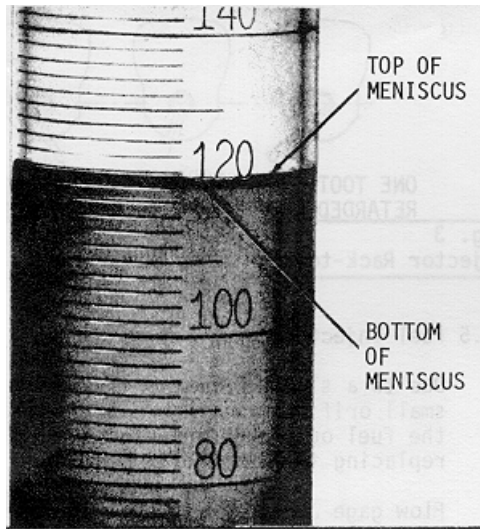

Fig. 1
- (1) Operator Errors: If the column of liquid in the vial is read at the top of the meniscus instead of at the bottom, a variation of 1 or 2 points will result. Refer to Fig. 1.
- (2) Air In Lines: This can be caused by starting a test before the air is purged from the injector and lines, or from an air leak on the vacuum side of the pump.
- (3) Counter Improperly Set: The counter should be set to divert the injector output at 1,000 strokes. This should not be confused with counter overrun that will vary from 2 to 6 digits, depending upon internal friction. The fuel diversion is accomplished electrically and will occur at 1,000 strokes (if properly set) although the counter may overrun several digits.
- (4) Test Oil: A special test oil is supplied with the calibrator and should always be used. If regular diesel fuel (or any other liquid) is used, variations are usually noted because of the affect of the oil on the solenoid valve and other parts. The fuel oil introduced into the test oil when the fuel injector is placed in the calibrator for a calibration check contaminates the test oil. Therefore, it is important that the test oil filter be changed very six months or sooner if required.